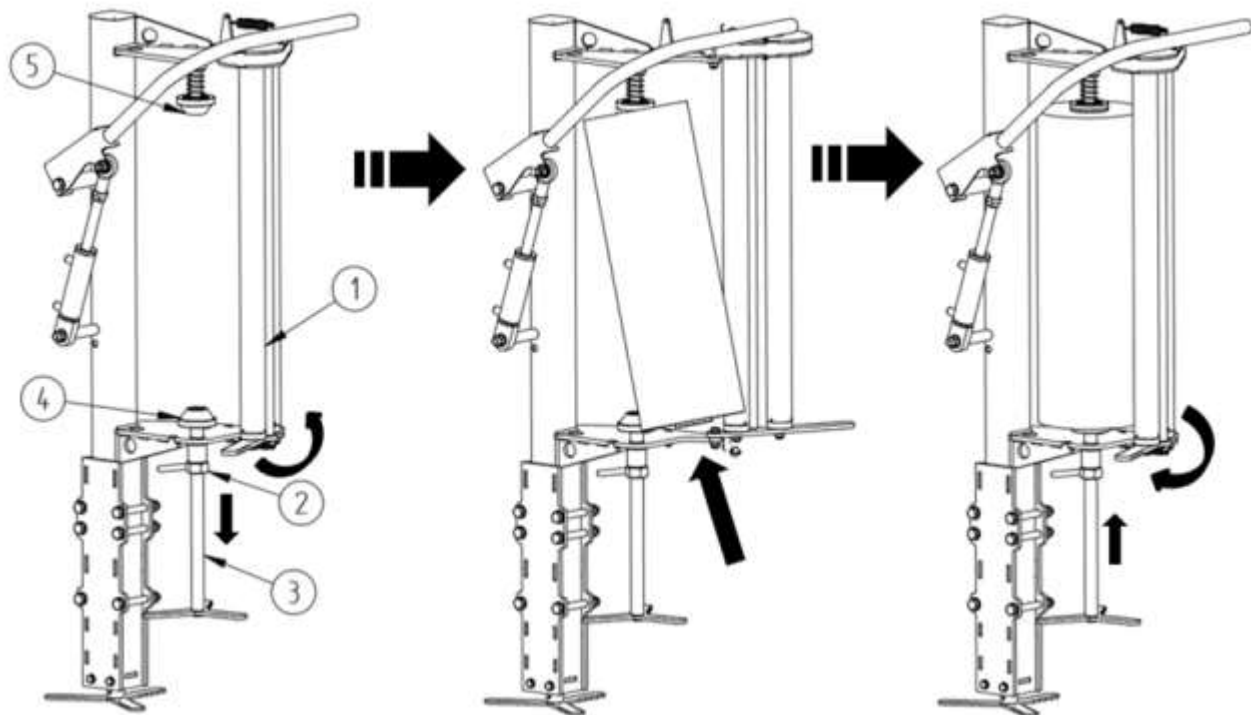

Figure 31 Film installation
(1) roller I, (2) roller II, (3) film
Threading the film must follow the direction shown in Figure 31. When mounted correctly, the film (3) is unwound to be wrapped around roller I (1) first, and then routed behind roller II (2) and tied on the first bale to be wrapped.